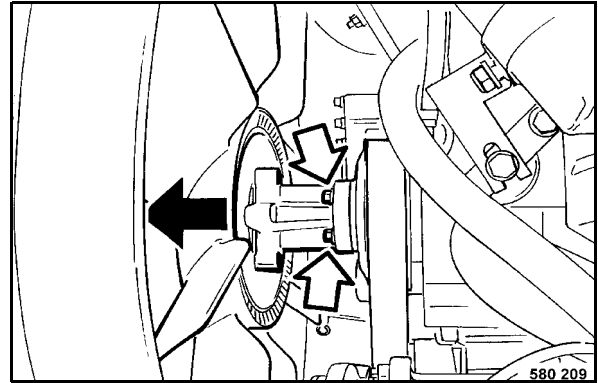

Fig. 155
- Unscrew the fastening screws (Fig. 155) and slide the fan forward.